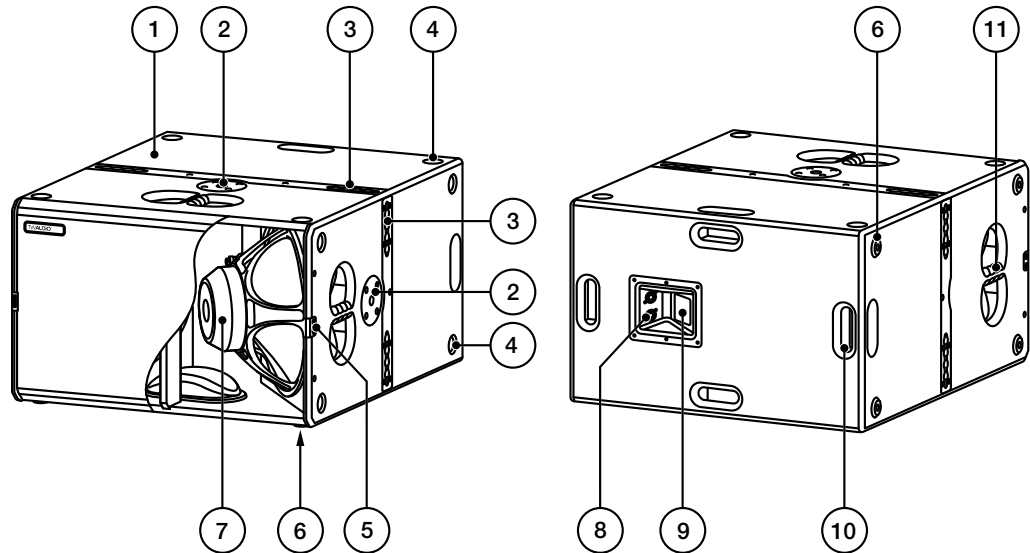

Figure 2.1 - Overview
Make sure that the maximum load of 50kg / 110lbs for the M20 pole mount flange is not exceeded! Figure 2.1 – Item 2.
The M20 pole mount flange (figure 2.1- item 2) is not designed for side forces once mounted – do not apply any pressure from the sides.
Please note that only centered loads are allowed to be placed on the M20 pole mount flange – Figure 2.1 – Item 2.
Note that the VERAS30 loudspeakers are mechanically connected. This is done via the rigging tracks (see figure 2.1 - pos. 3)!
Note that the VERA S30 loudspeakers are mechanically connected. This is done via the lateral rigging tracks (see figure 2.1 - pos. 3)!